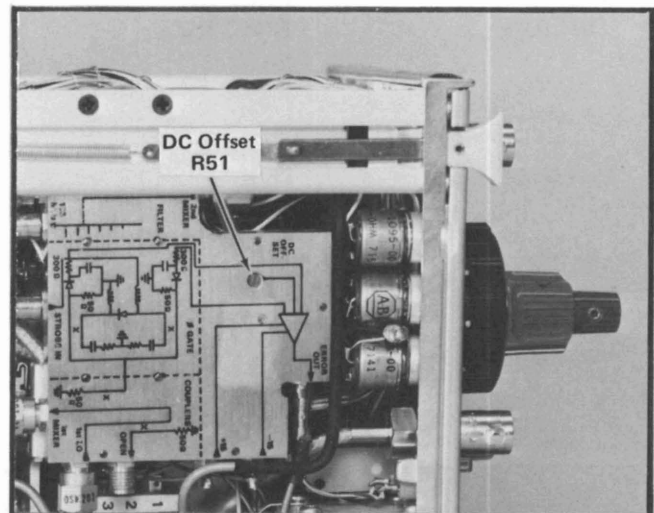

Fig. 4-5. Hybrid circuit module showing the location of the error amplifier balance adjustment.
c. Adjust the DC Offset R51 (Fig. 4-5) of the error amplifier so the output of the compensating amplifier U1350 is 0 volt. Tune the Frequency of the 7L12 through